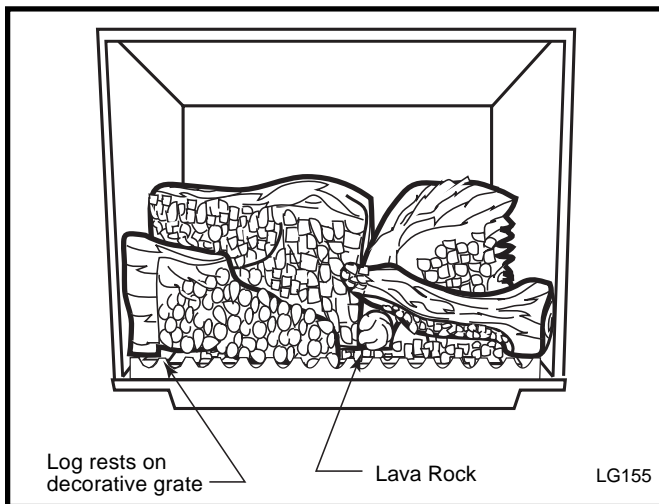

Fig. 29 Completed log installation.
3. Install the right rear log by placing it on the rear log bracket at the back toward the right. Make sure the right side of the right rear log lines up with the right bracket. (Fig. 29) **NOTE:** When the right and left rear logs are in place, they should touch the back of the firebox and each other.
4. Install the right log by engaging hole on the bottom left of the right log with pin on the front left of the right rear log. (Fig. 29) Set the bottom right of the right log on the bracket and bring the bottom right forward to come in contact with decorative grate on the right.
5. Loosely sprinkle the lava rocks directly on top of the burner just behind decorative grate. Use the lava rock to cover brackets on the burner. Do not place lava rocks toward back of burner. The lava rock is shipped inside the finish bag assembly. (Figs. 29, 30)